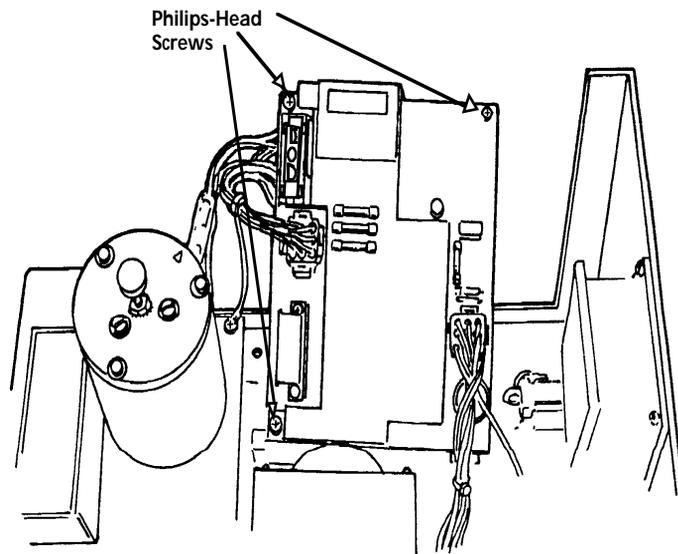

Figure 5-17 Low and High Voltage Fuse Locations
3. Remove the two binder-head screws on the base of the lamp power supply bracket. Tilt the lamp power supply away from the unit as shown in Figure 5-17.